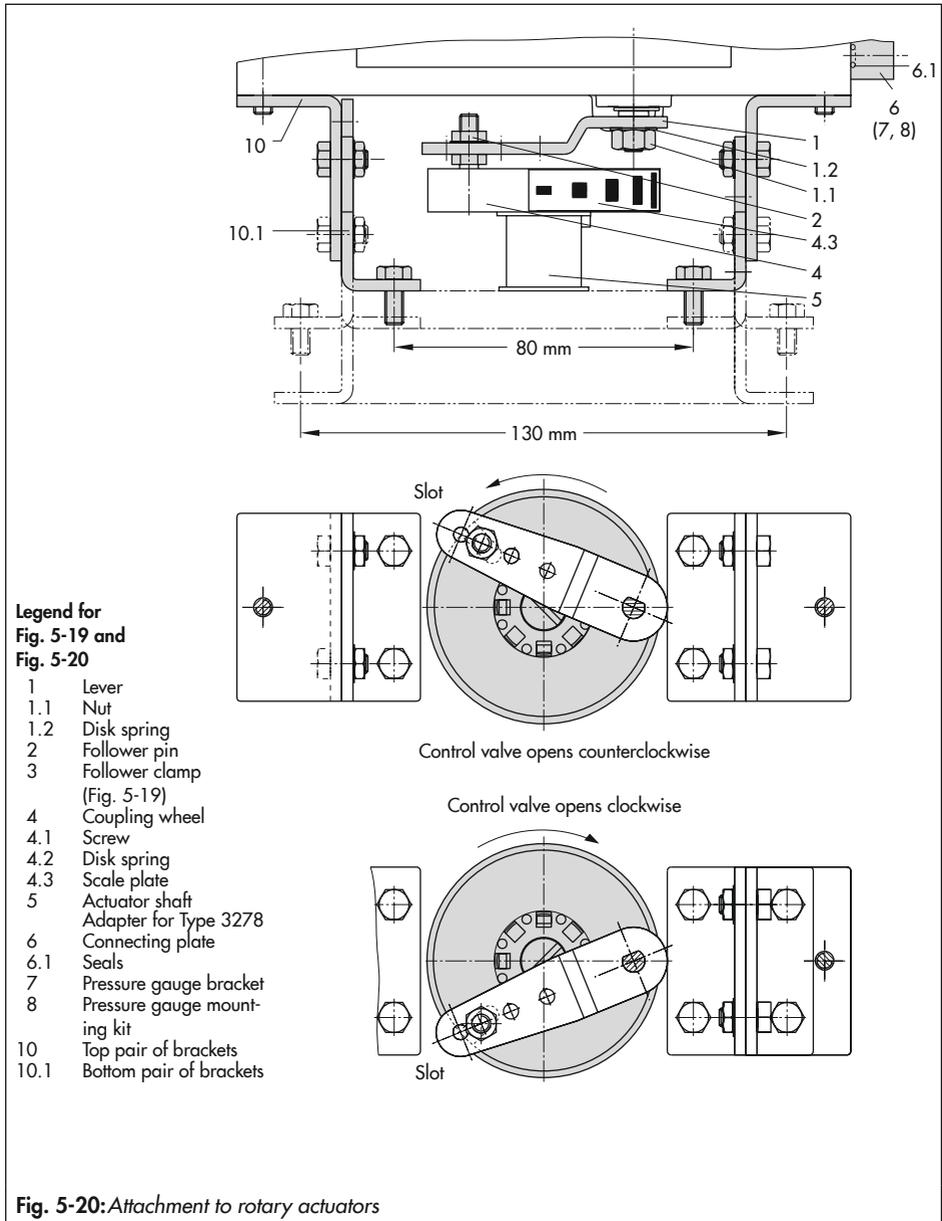

Fig. 5-20: Attachment to rotary actuators
- See Fig. 5-20
- Place coupling wheel (4) with flat side facing the actuator on the follower clamp (3). Align slot so that it matches the direction of rotation when the valve is in its closed position (see Fig. 5-20).
- Fasten the coupling wheel (4) and follower clamp (3) tightly onto the actuator shaft using screw (4.1) and disk spring (4.2).
- Fasten the bottom pair of brackets (10.1) with the bends pointing either facing to the inside or to the outside (depending on the actuator size) onto the actuator housing. Position the top pair of brackets (10) and fasten.
- Mount connecting plate (6) or pressure gauge bracket (7) with pressure gauges on the positioner. Make sure that the two seals (6.1) are seated properly. Double-acting springless rotary actuators require the use of a reversing amplifier on the connection side of the positioner housing (see Chapter 5.5.7).
- Unscrew the standard follower pin (2) from the positioner's M lever (1). Use the metal follower pin (\varnothing 5 mm) included in the mounting kit and screw tight into the hole for pin position 90°.
- Place positioner on the top bracket (10) and fasten tight. Taking the actuator's direction of rotation into account, adjust lever (1) so that it engages in the slot of the coupling wheel (4) with its follower pin (Fig. 5-20). It must be guaranteed that the lever (1) is parallel to the long side of the positioner when the actuator is at half its angle of rotation.